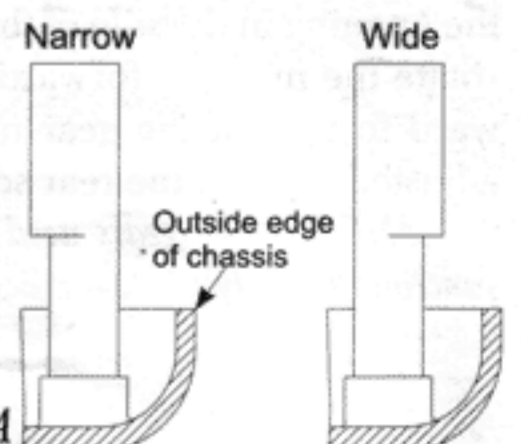

Figure 92A
❑ Step 11. Refer to Table 92 and locate the type of steering servo you will be using. In the column marked "mount position", note the listing for your particular servo. Refer to Figure 92A to see how the steering servo mount (161) should be attached to the chassis (30).